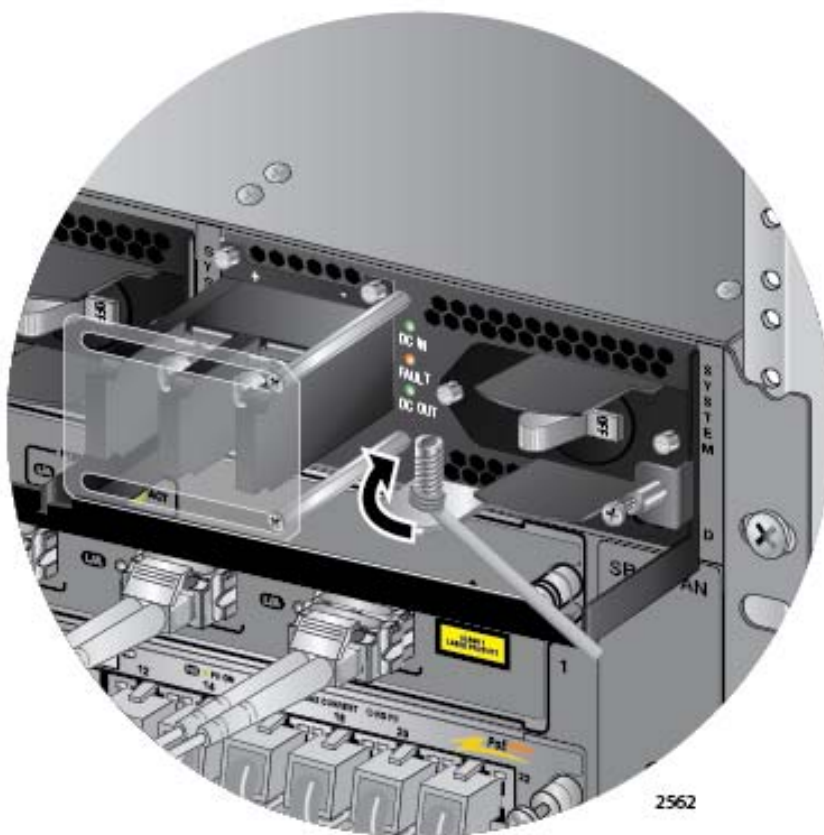

Figure 121. Attaching the Bare Grounding Wire to the Grounding Post
3. Wrap the grounding wire clockwise around the base of the grounding post, as shown in Figure 121.